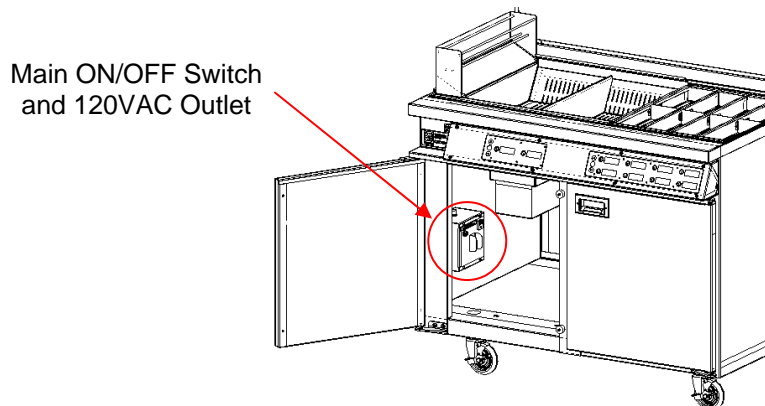

FIGURE 2B - Main ON/OFF Switch and 120VAC Outlet
2. Plug the power supply into the 120VAC outlet of the Fry Dump Station. The outlet is located beside the dump station main ON/OFF switch behind the left door inside the cabinet (figure 2B).
3. Turn ON the dump station main ON/OFF switch (figure 2B). This switch controls the station heaters, lights and the 120VAC outlet used to power the timer. **The timer will not turn ON if this switch is OFF.**
2. Unplug the timer power supply from the station outlet located inside the cabinet behind the left door (figure 2B on page 2).